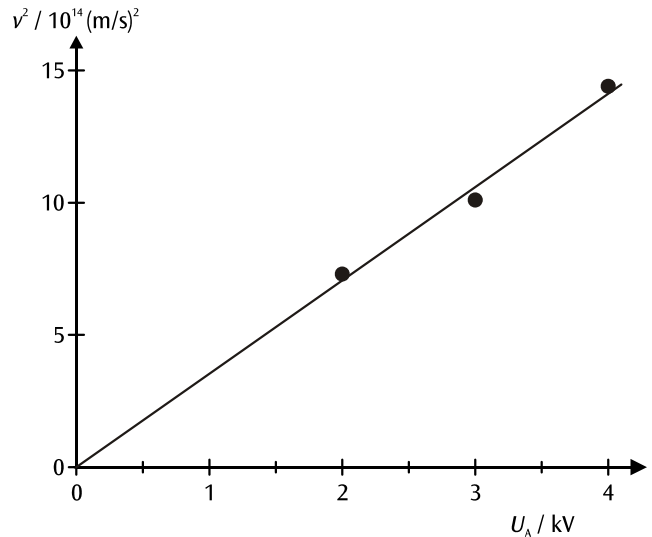

Fig. 7: Graph of  $v^2$  against  $U_A$
Fig. 7 is a graph of the square of the velocity against the anode voltage. The gradient of the resulting straight line through the origin also leads to a result for the specific charge of an electron according to Equation (8).